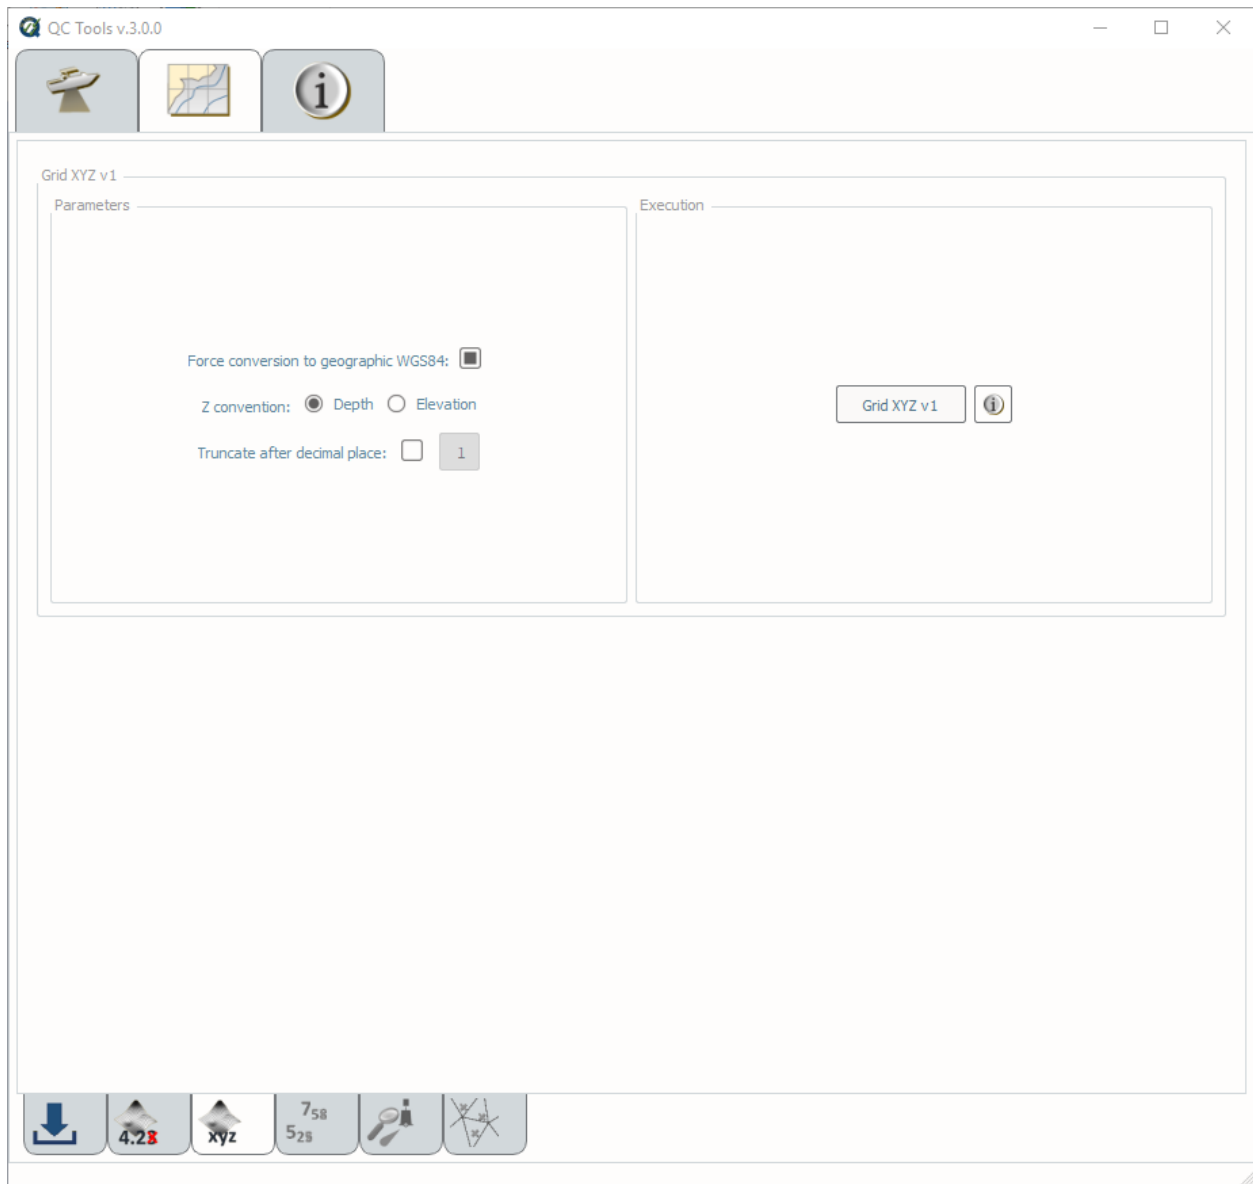

Fig. 2.36: Grid XYZ's interface.
- In **Execution** (Fig. 2.36), click **Grid XYZ v1**.